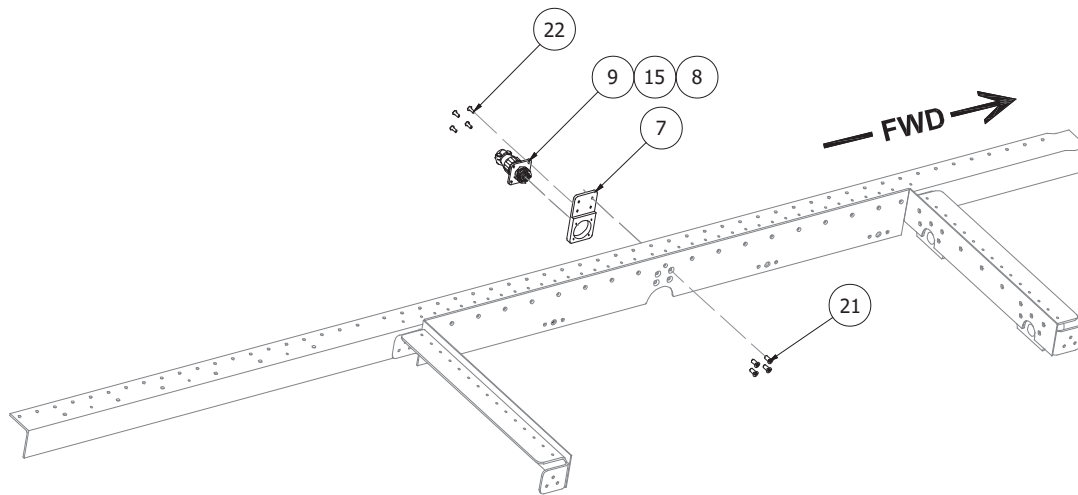

Figure 7
4. Fasten the wiring connector to the mounting clip using noted screws while it is free hanging per Figure 7.
5. Fasten the connector mounting clip to the backside of the baggage lip/top deck rail with noted fasteners per Figure 7.